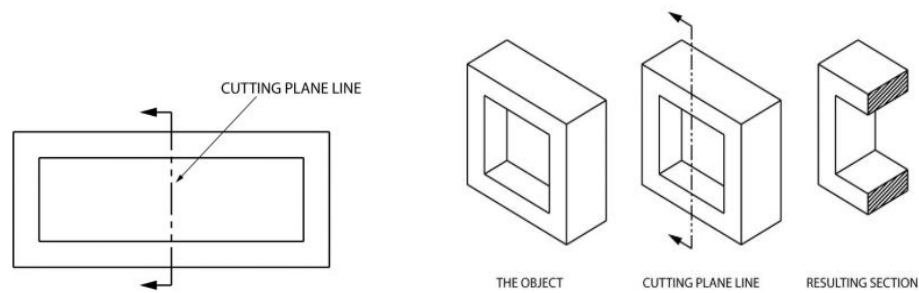

Fig. 2.39: Cutting Plane Representation
- A cutting plane is depicted using a thick line terminated by arrowheads on both ends, which show the direction from which the section is viewed (Fig. 2.39).